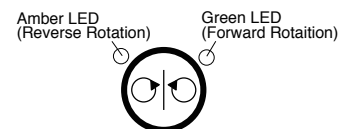

Fig.3-13 Electric Motor Direction Control Switch
⑩ Electric Motor Rotation Direction Control Switch (Optional) (Fig.3-13) E